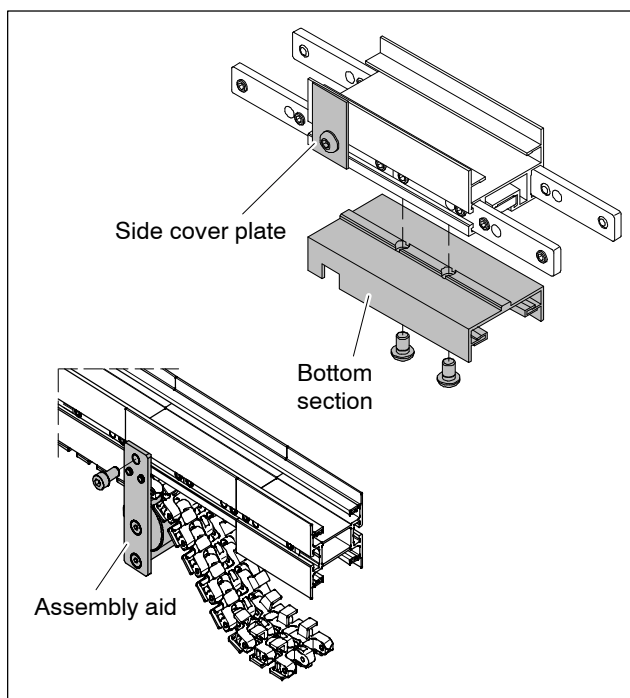

Fig. 34: Chain assembly unit
- Swing up side cover plates and fasten. (see Fig. 34).